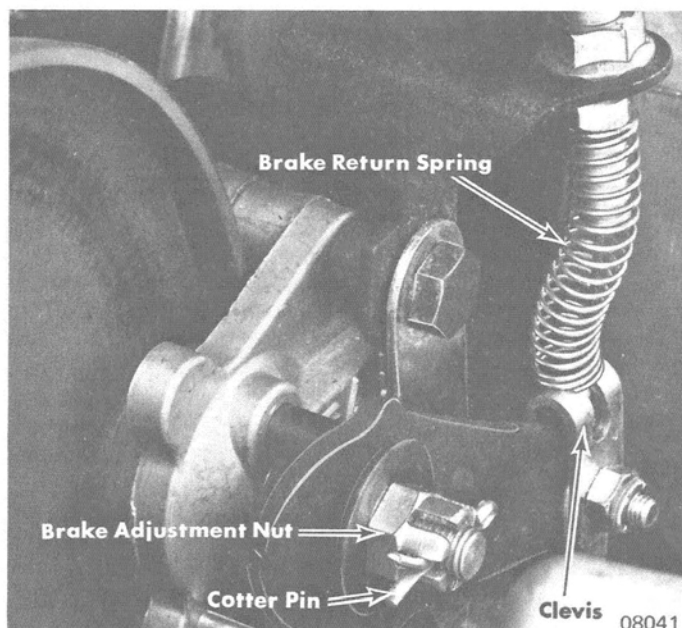

Figure 3. Brake Assembly
2. Remove cotter pin from brake adjustment nut and loosen nut several turns.(Figure 3)
3. Remove brake cable core wire from clevis.(Figure 3)